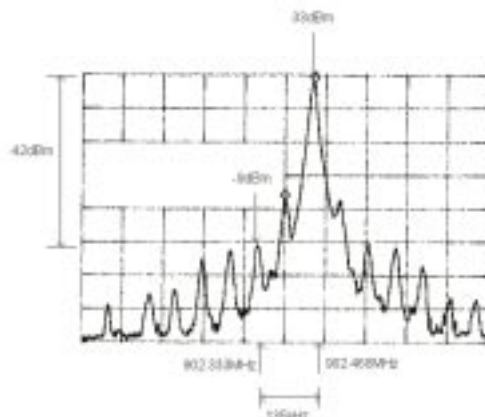

Figure 23: Image leak ratio
2. (Figure 23) Using the spectrum analyser measure the image leak ratio. Image leak ratio is the measured ratio of peak power and the power at 135kHz below peak frequency.